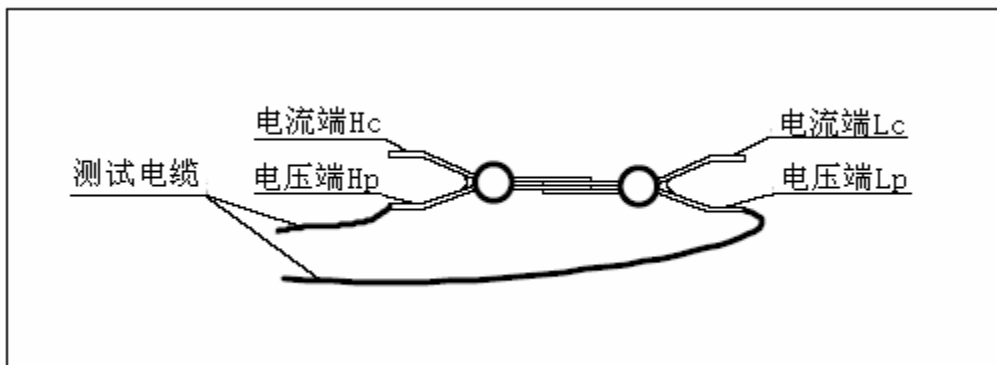

Figure 2 Correct short compensation connection of test cables' terminals
- 3) Direct short circuit of test fixture. Connect high and low terminals of voltage and current, as shown in Figure 2.